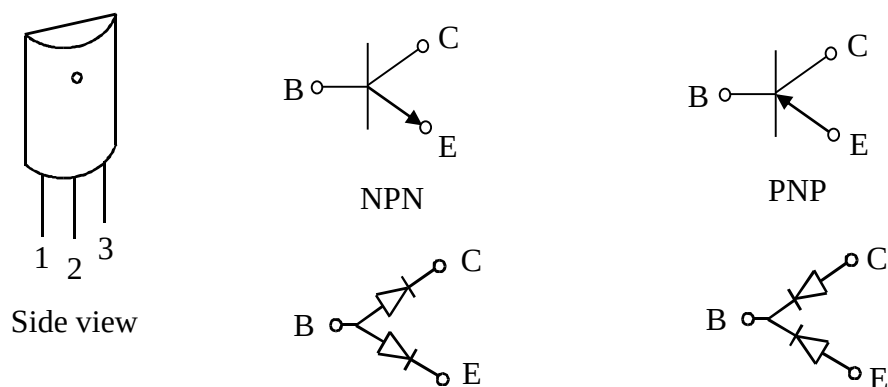

Figure 1. Transistors of type NPN and type PNP
For an NPN transistor, from B to C is a forward-biased diode and from B to E is another forward-biased diode, as shown in Figure 1. For a PNP transistor, from C to B and from E to B are two forward-biased diodes, as shown in the figure. Based on this principle, we can find β as well as to determine the type (NPN or PNP).
- a) Step 1. Name the three terminals of each transistor as 1, 2, and 3 as shown in figure 1. (Usually the middle terminal (2) is the B, but you have to verify it). Set the multimeter selector to **<diode>** (a symbol $\rightarrow|$). Place the meter leads on the transistor terminals as shown in Table 1 and record the reading of the meter.
c. Based on your analysis of the NPN transistor, identify the Base (B), Emitter (E) and Collector (C) using the pin notation (1, 2 and 3) shown in Figure 1 of the lab manual.	___ / 3
f. Based on your analysis of the PNP transistor, identify the Base (B), Emitter (E) and Collector (C) using the pin notation (1, 2 and 3) shown in Figure 1 of the lab manual.	___ / 3